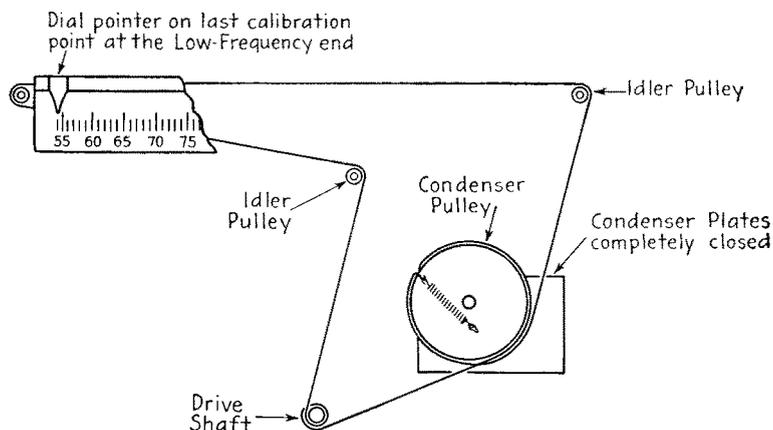

FIG. 23-12. Setting the dial pointer.
**Setting the receiver tuning-dial scale adjustment.** The next step in the alignment procedure is to adjust the receiver tuning-dial pointer. The most common adjustment is to rotate the gang condenser to maximum capacity (plates fully engaged) position. Then set the dial pointer to the last calibration mark on the low-frequency end of the dial scale, as shown in Fig. 23-12.